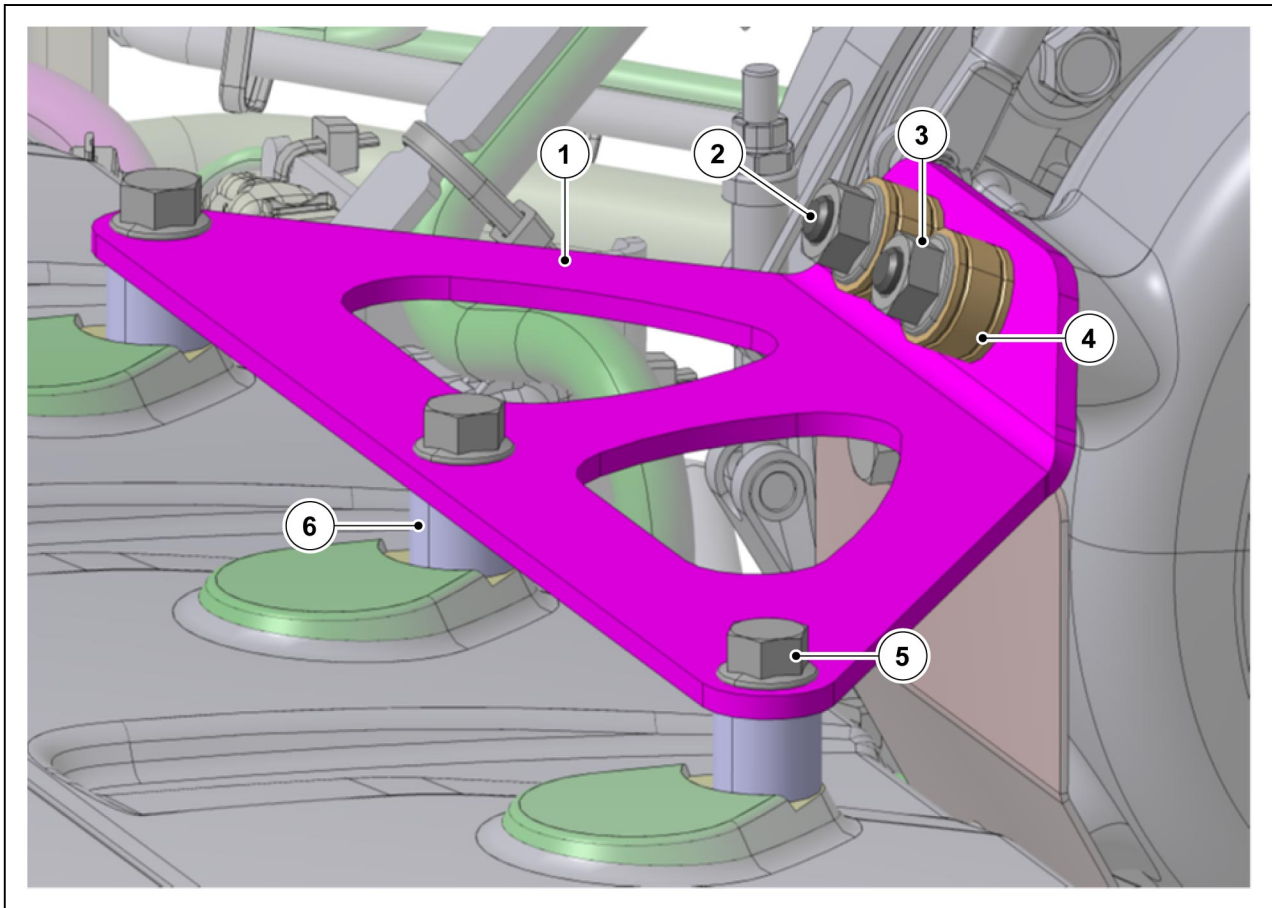

Fig. 1
Install the support bracket conversion kit U972200100000 as shown in (Fig.1).
4. Install the support bracket conversion kit as shown in (Fig.1). Torque values can be found in the table above.